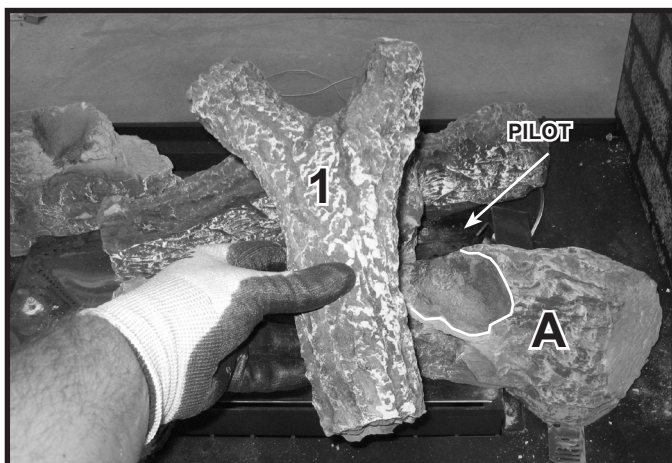
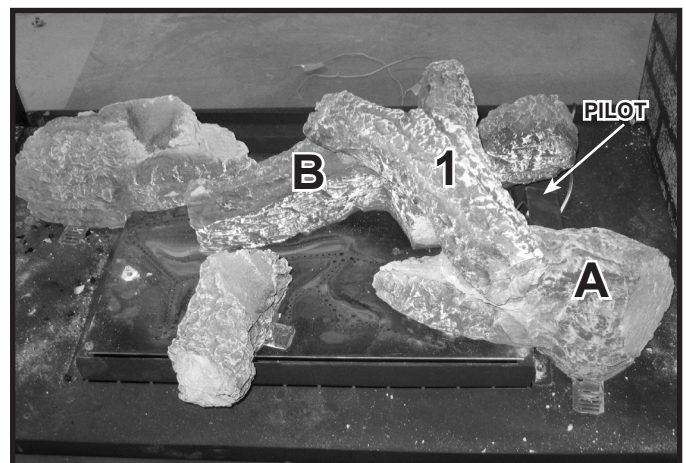

Figure 3. Placement of Log #1
Figure 4. Placement of Log #1
STEP 1. Log #1 (SRV2129-704): Place Log #1 on Log A. The end and bottom of Log #1 fit into the indentation on Log A highlighted in Figure 3. The Y-shaped end of Log #1 will rest on the smooth area of Log B as shown in Figure 4.